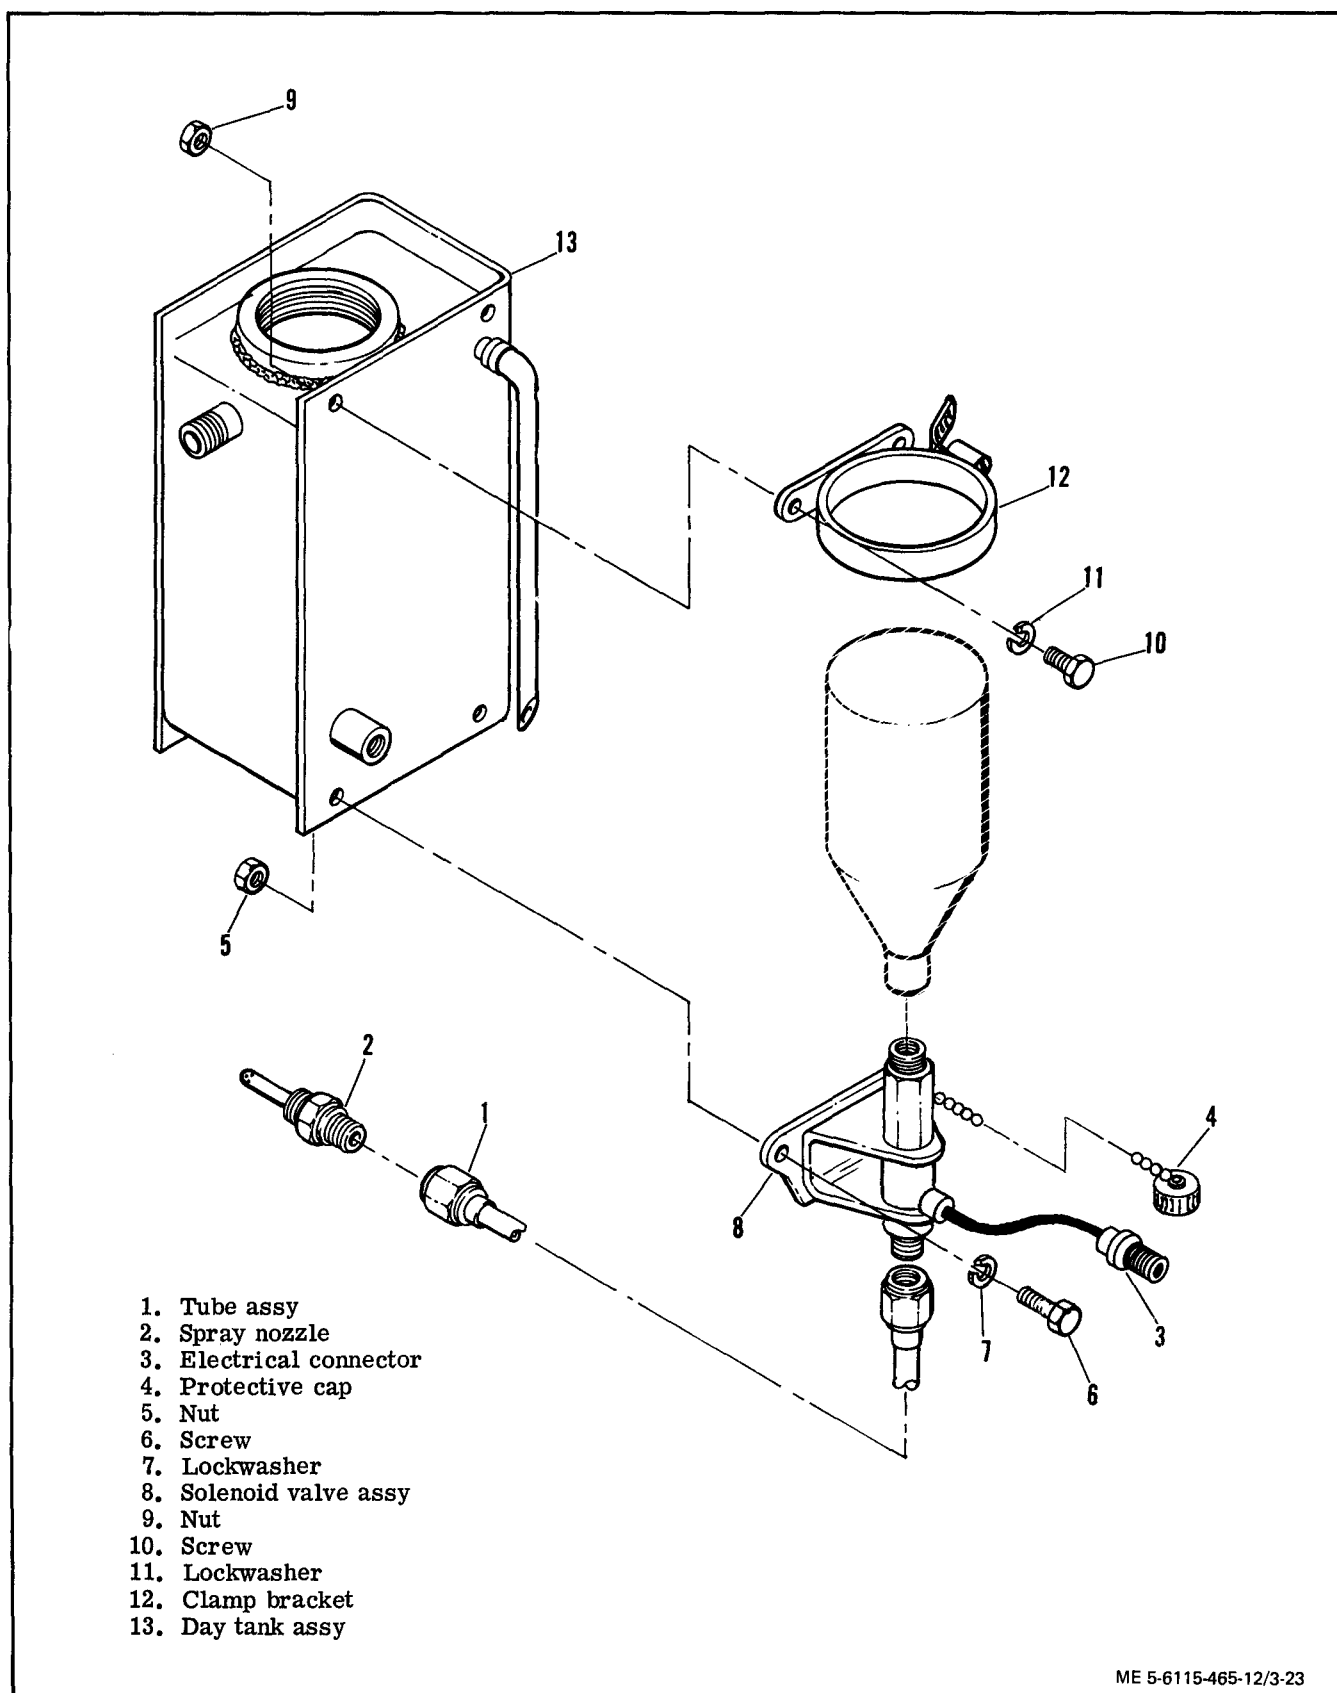

Figure 3-23. Start Aid Assembly, Removal and Installation
(1) Remove tube assembly (1, figure 3-23) and unscrew spray nozzle (2) from sir cleaner housing.
(2) Remove ether tank and install protective cap (4) on solenoid valve assembly (8).
(3) Disconnect electrical connector (3) from solenoid valve assembly.
(4) Remove nuts (5), screws (6), and lock-washers (7) to remove solenoid valve assembly (8).
(5) Remove nuts (9), screws (10), and lock-washers (11) to remove clamp bracket (12) from day tank assembly (13).